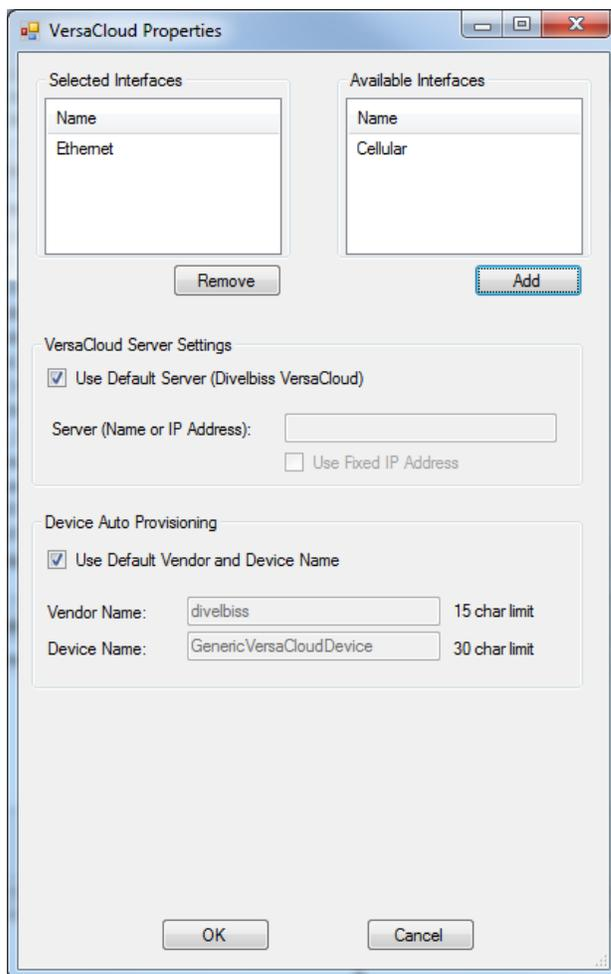

Figure 2-47 - VersaCloud Properties
- Click **OK**. The **VersaCloud Properties** Window will open. Refer to Figure 2-47. This window is used to select the interface (communications method) between the HEC-Gateway and the VersaCloud M2M Portal (Cloud server). The **Available Interfaces Pane** and the **Selected Interfaces Pane** are used for the selection.